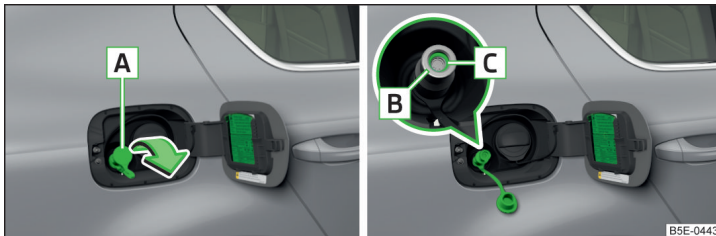

Fig. 182 Natural gas filler tubes
- Remove cap **A** » Fig. 182 from gas filler tube **B** in direction of the arrow.
- Check that sealing ring **C** » Fig. 182 has remained inserted in the gas filler tube.